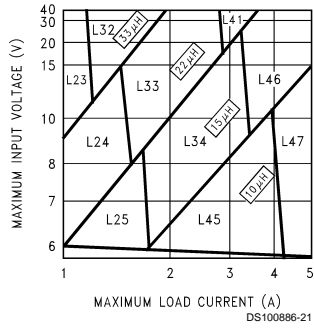
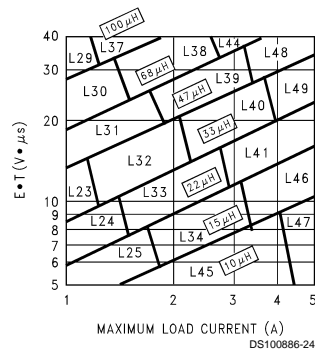

FIGURE 3. LM2678-3.3
FIGURE 6. LM2678-ADJ
Step 3: Determine the inductor required by using one of the four nomographs, *Figure 3* through *Figure 6*. Table 1 provides a specific manufacturer and part number for the inductor.
Step 5: Determine an input capacitor from Table 4 for fixed output voltage applications. Use Table 2 to find the specific capacitor type. For adjustable output circuits select a capacitor from Table 2 with a sufficient working voltage (WV) rating greater than $V_{in\ max}$, and an rms current rating greater than one-half the maximum load current (2 or more capacitors in parallel may be required).
Step 3: Use the nomograph for the 3.3V device, *Figure 3*. The intersection of the 16V horizontal line ($V_{in, max}$) and the 4A vertical line ($I_{load, max}$) indicates that L46, a 15 μ H inductor, is required.
Step 3: To use the nomograph for the adjustable device, *Figure 6*, requires a calculation of the inductor Volt•microsecond constant ($E \cdot T$ expressed in $V \cdot \mu s$) from the following formula:
Using *Figure 6*, the intersection of 27V• μ S horizontally and the 3.5A vertical line ($I_{load, max}$) indicates that L48, a 47 μ H inductor, or L49, a 33 μ H inductor could be used. Either inductor will be suitable, but for this example selecting the larger inductance will result in lower ripple current.
Important Note: When using the adjustable device in low voltage applications (less than 3V output), if the nomograph, *Figure 6*, selects an inductance of 22 μ H or less, Table 6 does not provide an output capacitor solution. With these conditions the number of output capacitors required for stable operation becomes impractical. It is recommended to use either a 33 μ H or 47 μ H inductor and the output capacitors from Table 6.